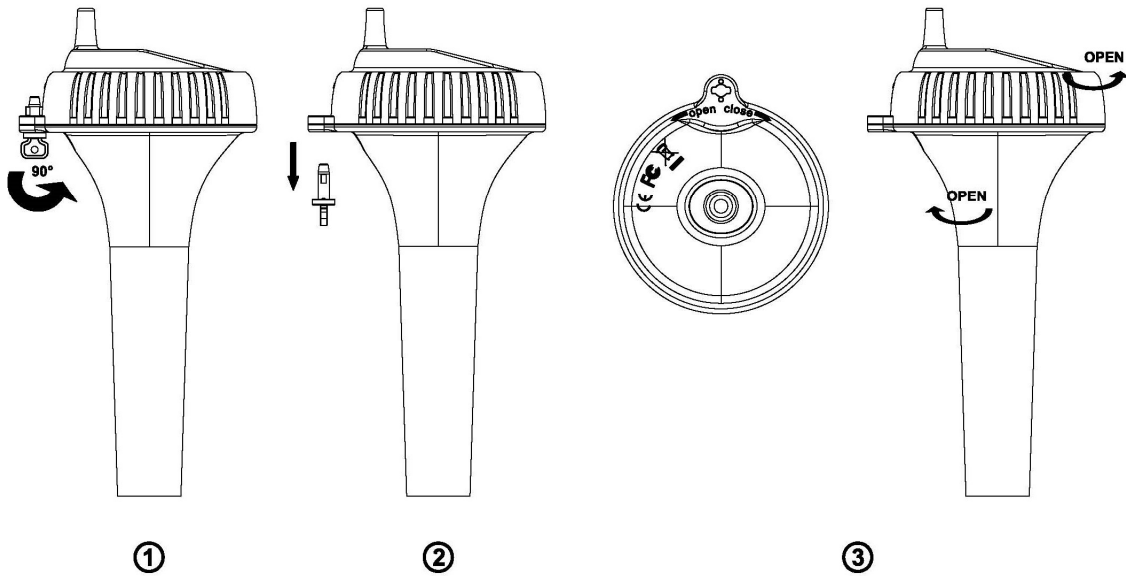

Figure 27
To insert the batteries,, (1) Twist the **BUTTON** lid to unlock, (2) remove the button, and (3) twist the main body of the sensor by removing the lid, as shown in Figure 27 .
Remove the battery door on the back of the sensor by removing the set screw, as shown in Figure 27.